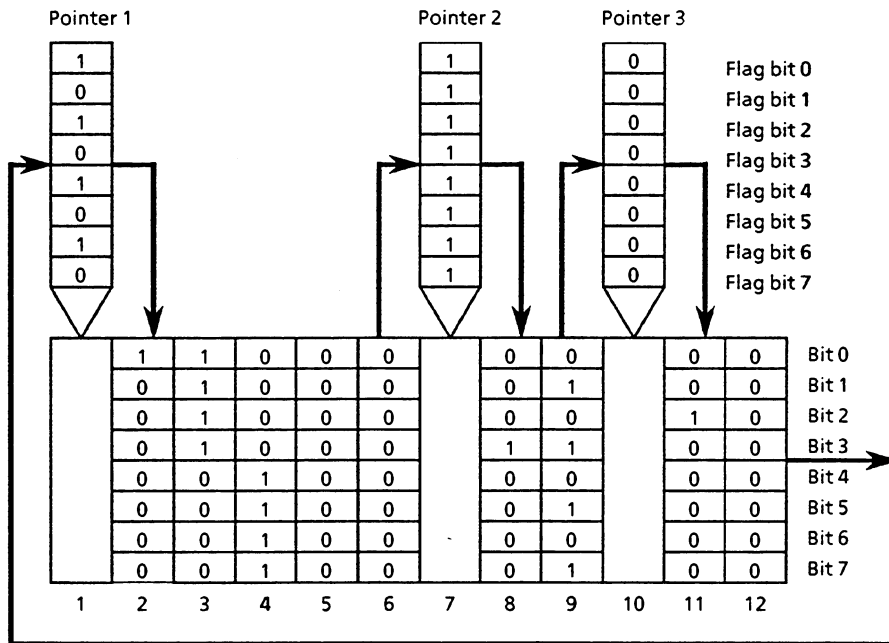

Fig. 21 Schematic diagram of the shift register with 3 pointers and 12 storage locations after the first clock pulse
**Example:** scanning of flag bits 0, 3 and 2 (Fig. 21) at the base pointer.